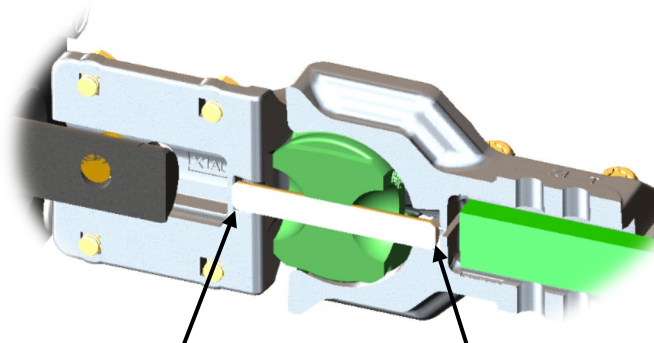

Figure 7-2: A section-view of the couplers when fully engaged. The arrows indicate the locations where the alignment rods should be fully seated.
- Starting with the Final Drive Gearbox side, make sure the Coupler on the Drive Shaft has its lock nuts facing downwards for the ease of installation. Insert the Coupler Load Arm opening into the grooved opening on the Puck as shown in Figure 7-1. Push the Coupler in until fully engaged with the Puck. Make sure the centering pin is also properly seated within both sides of the Couplers as indicated in Figure 7-2.
Once the coupler and puck openings are aligned, push the coupler on the motor shaft towards the other coupler to engage the coupler load arms and the puck as shown in Figure 8-2. Make sure the alignment rod is fully seated in the couplers on both ends in the same way as shown in figure 7-2. Re-install the 3/8" bolt through one of the holes on the coupler's face and the through hole on the center drive shaft, and then engage the 3/8" lock nut into the thread. Stop turning when thread interference begins. **Do not tighten down lock nut at this point.**